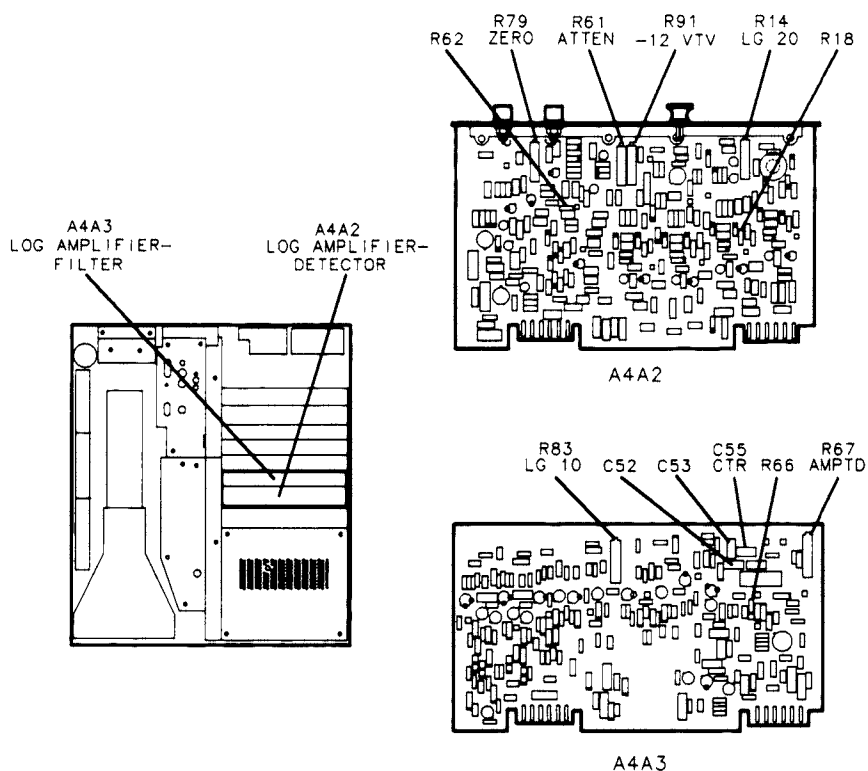

Figure 3-34. Location of Log Amplifier Adjustments
5. Check A4A2R79 ZERO for a DVM indication of 0.0000 ± 0.0005 V dc. See Figure 3-34 for location of adjustment. If A4A2R79 ZERO requires adjustment, perform Adjustment Procedure 6, "Video Processor Adjustment" before continuing.
8. Adjust A4A3C55 CTR for maximum DVM indication. See Figure 3-34 for location of adjustment. If A4A3C55 is at an extreme of its adjustment range (fully meshed, maximum capacitance, or unmeshed, minimum capacitance), increase or decrease value of A4A3C52 and A4A3C53. Refer to Table 3-3 for range of values.
11. Adjust A4A3R67 AMPTD for DVM indication the same as that noted in step 9 ± 0.0005 V dc. See Figure 3-34 for location of adjustment. If unable to adjust A4A3R67 AMPTD for proper indication, increase or decrease value of A4A3R66. (If A4A3R67 is fully counter-clockwise, increase the value of A4A3R66.)
18. Adjust A4A2R91 -12 VTV for DVM indication of $+500 \pm 1$ mV dc. See Figure 3-34 for location of adjustment.
20. Adjust A4A2R61 ATTEN for DVM indication of $+1.000 \pm 0.0001$ V dc. See Figure 3-34 for location of adjustment. If unable to adjust A4A2R61 ATTEN for proper indication, increase or decrease value of A4A2R62. (If A4A2R61 is fully clockwise, increase the value of A4A2R62.) Refer to Table 3-3 for range of values.
25. Adjust A4A3R83 LG10 for DVM indication of $+1.000 \pm 0.010$ V dc. See Figure 3-34 location of adjustment. If unable to adjust LG10 for proper indication, increase or decrease value of A4A3R54. Refer to Table 3-3 for range of values.
28. Adjust A4A2R14 LG20 for DVM indication of $+1.000 \pm 0.010$ V dc. See Figure 3-34 for location of adjustment. If unable to adjust LG20 for proper indication, increase or decrease value of A4A2R18. Refer to Table 3-3 for range of values.
6. Set step attenuator to 120 dB. DVM indication should be 0.0000 ± 0.0005 V dc. If DVM indication is out of tolerance, adjust A4A2R79 ZERO on A4A2 Log Amplifier-Detector. See Figure 3-34 for the adjustment location.